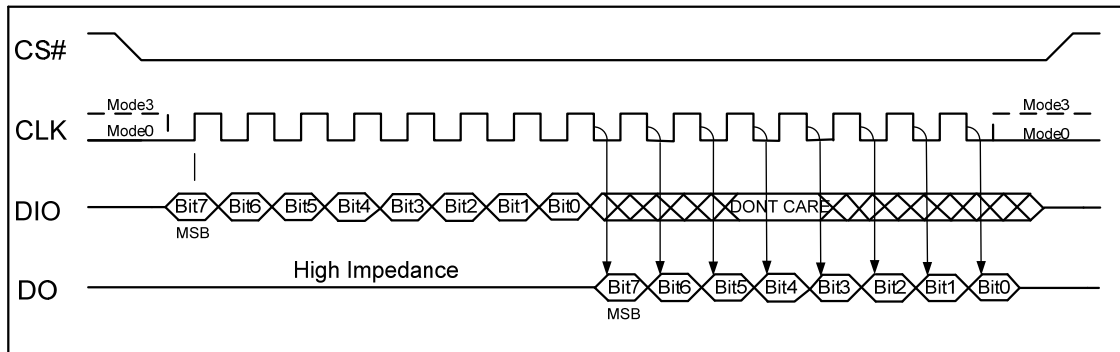

Figure 5, SPI Modes
The 25D16 are accessed through an SPI compatible bus consisting of four signals: Serial Clock (CLK), Chip Select (CS#), Serial Data Input / Output (DIO) and Serial Data Output (DO). Both SPI bus operation Modes 0 (0, 0) and 3 (1, 1) are supported. The primary difference between Mode 0 and Mode 3, as shown in Figure 5, concerns the normal state of the CLK signal when the SPI bus master is in standby and data is not being transferred to the Serial Flash. For Mode 0 the CLK is normally low. For Mode 3 the CLK is normally high. In either case data input on the DIO pin is sampled on the rising edge of the CLK. Data on the DO and DIO pins are clocked out on the falling edge of CLK.